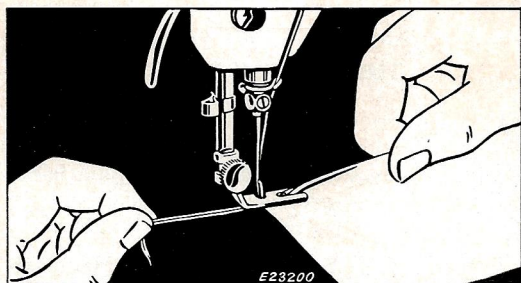

FIG. 36. STARTING HEM AT VERY END OF MATERIAL
- (1) Fold edge of material twice, about $\frac{1}{8}$ inch each time, for a distance of about two inches. Crease folds.
- (2) Lay about three inches of needle and bobbin threads back under hemmer. Place creased edge of material under hemmer with end of hem directly under needle. Lower hemmer and tack end of hem with two machine stitches.
- (3) Raise hemmer. Pull threads and hem slightly from you with left hand, then while holding threads, draw material toward you with right hand into scroll of hemmer until tacked end is caught in hemmer, as shown in **Fig. 36**.